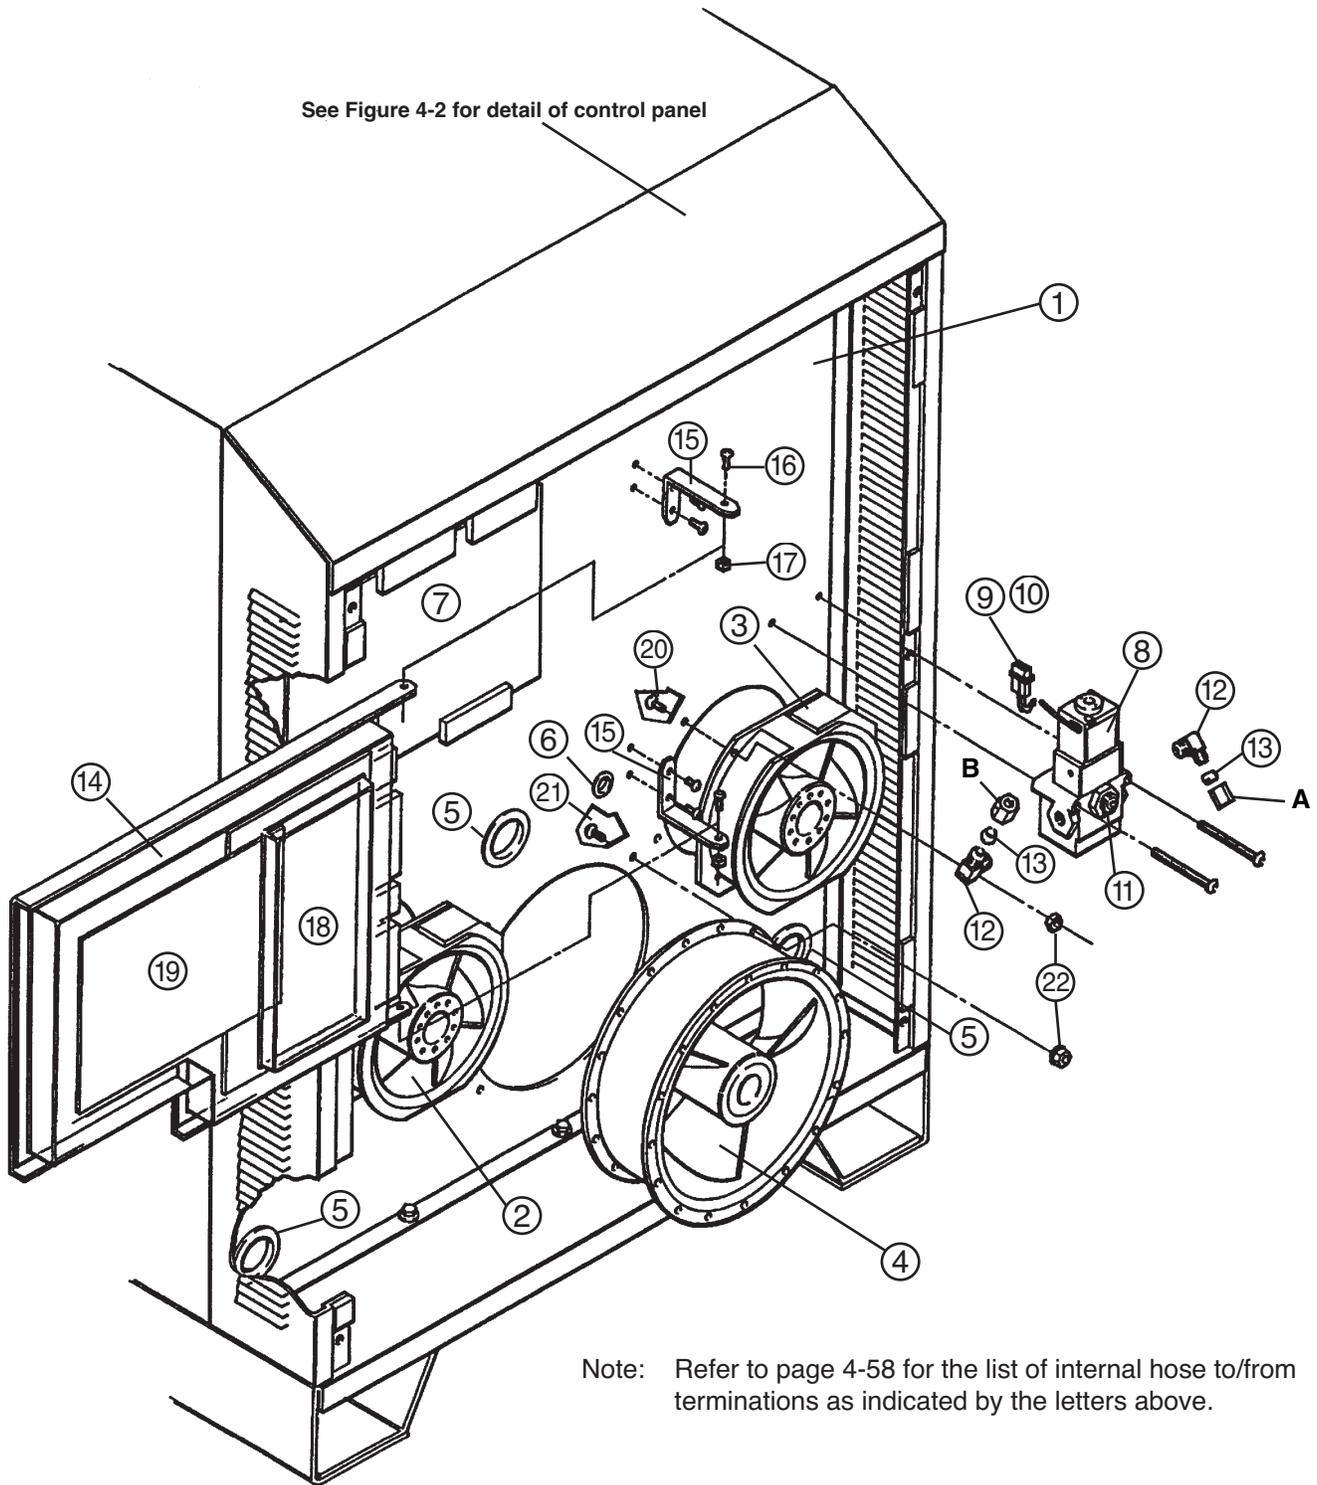

Figure 4-1 Power Supply – Front Wall, Outside
* THC SA available only on MAX200 power supplies 073020, 073021, 073022, 073023, 073024 and 073213 (CE).
** Items not shown in Figure 4-1.